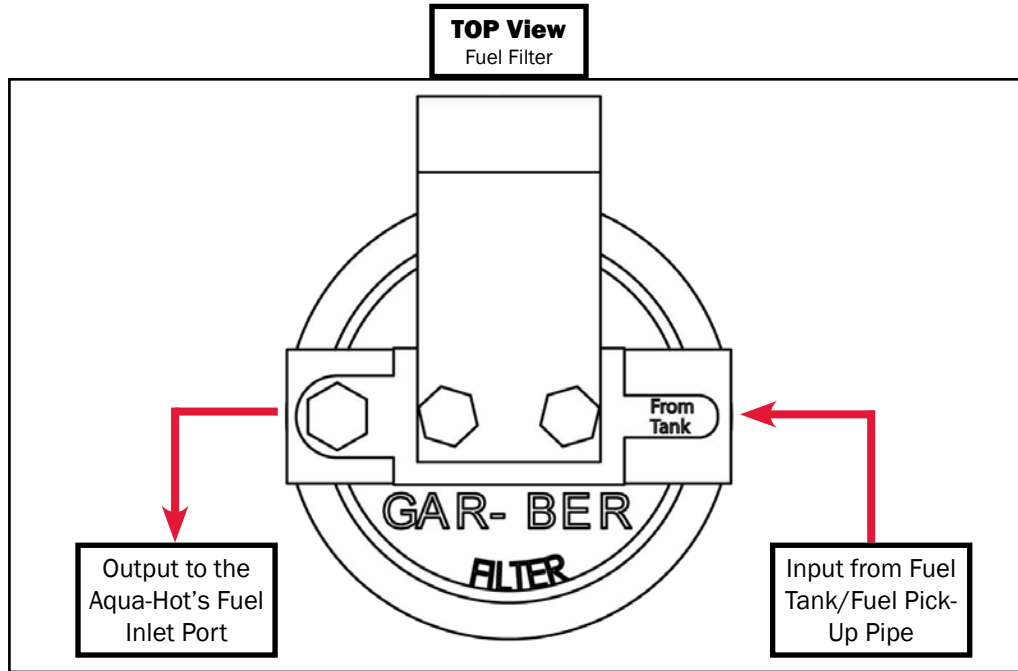

Figure 46
5. Install and tighten the appropriate fuel fittings onto the Aqua-Hot's fuel ports, as well as the two ports of the fuel filter. Reference Figure 46 & 47.
7. Cut the fuel line at the fuel filter mounting location and connect the fuel lines as illustrated in Figure 46.
NOTE: Be sure the flow of fuel through the filter is in the correct direction as shown in Figure 46.